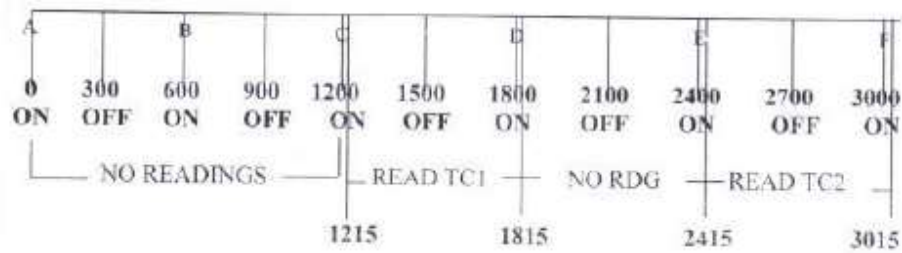

Fig. 1: Schematic showing how readings are to be taken. Numbers denote time in seconds. ON and OFF refer to the heater being turned on and off.
4. No readings are taken for the first two cycles (till 1200s.) Start taking readings from 1215 s. and note down the reading every 30 seconds; for TC1. Fig. 1 shows the schematic on how to take the readings.